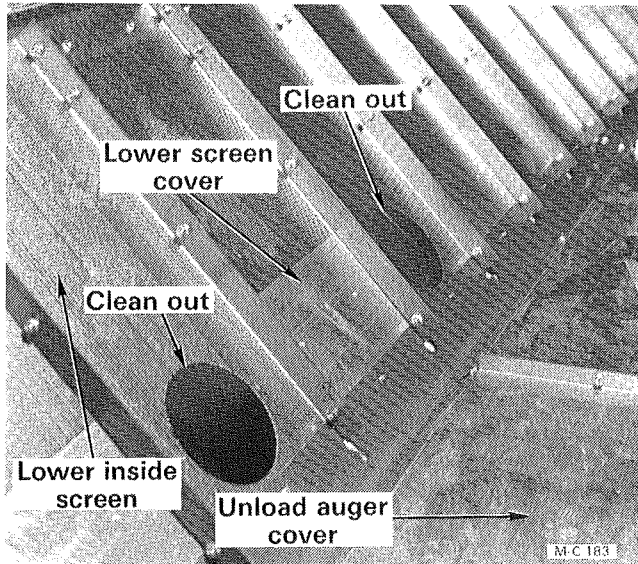

Figure 42
- Open the dryer rear lower door. Remove the unload auger covers, see Figure 42, page 28. Clean out the unload auger and grain metering rolls.